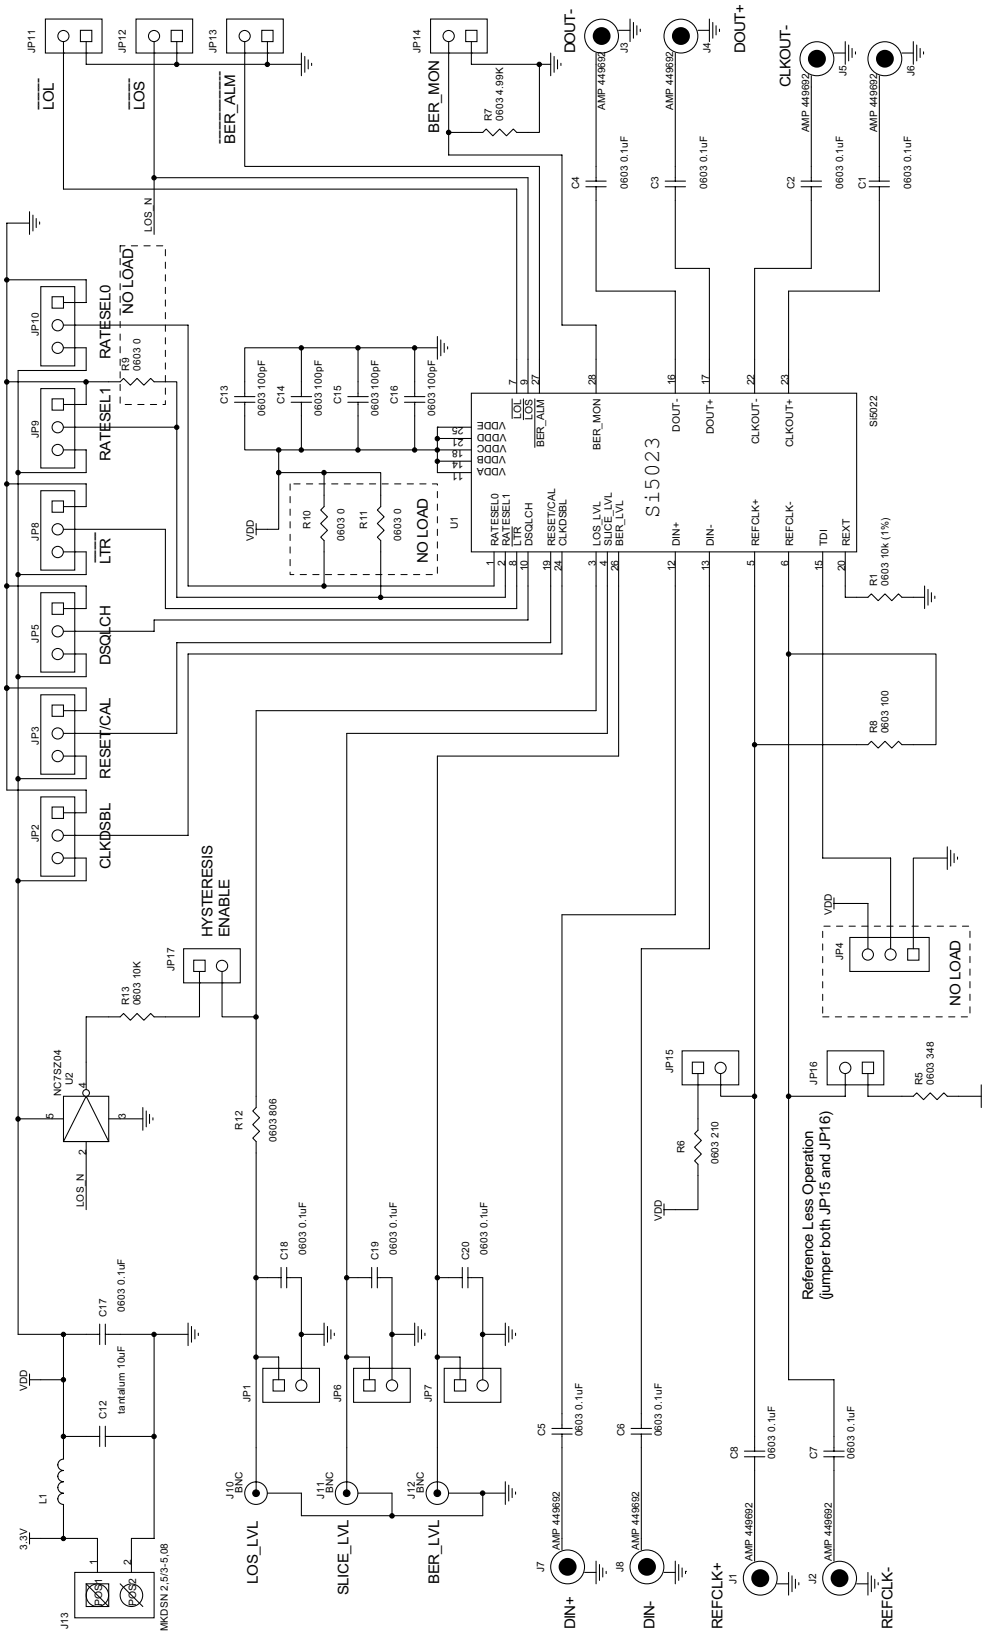

Figure 4. Si5023 Schematic
- Revised Figure 4, "Si5023 Schematic," on page 5 to show extended LOS hysteresis function.